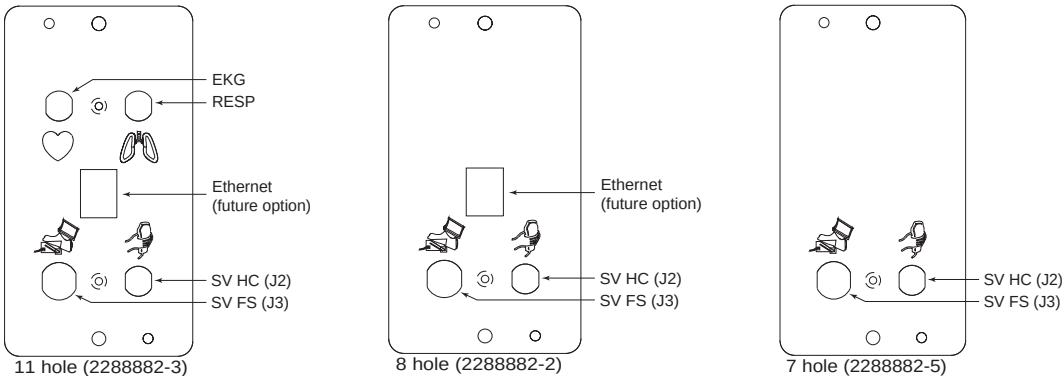

Figure 3-5 Gantry Base Faceplates
- 2.) Install the appropriate faceplate (see Figure 3-5) at indicated location per Table 3-2 using the four nuts removed with the original faceplates (two per faceplate).